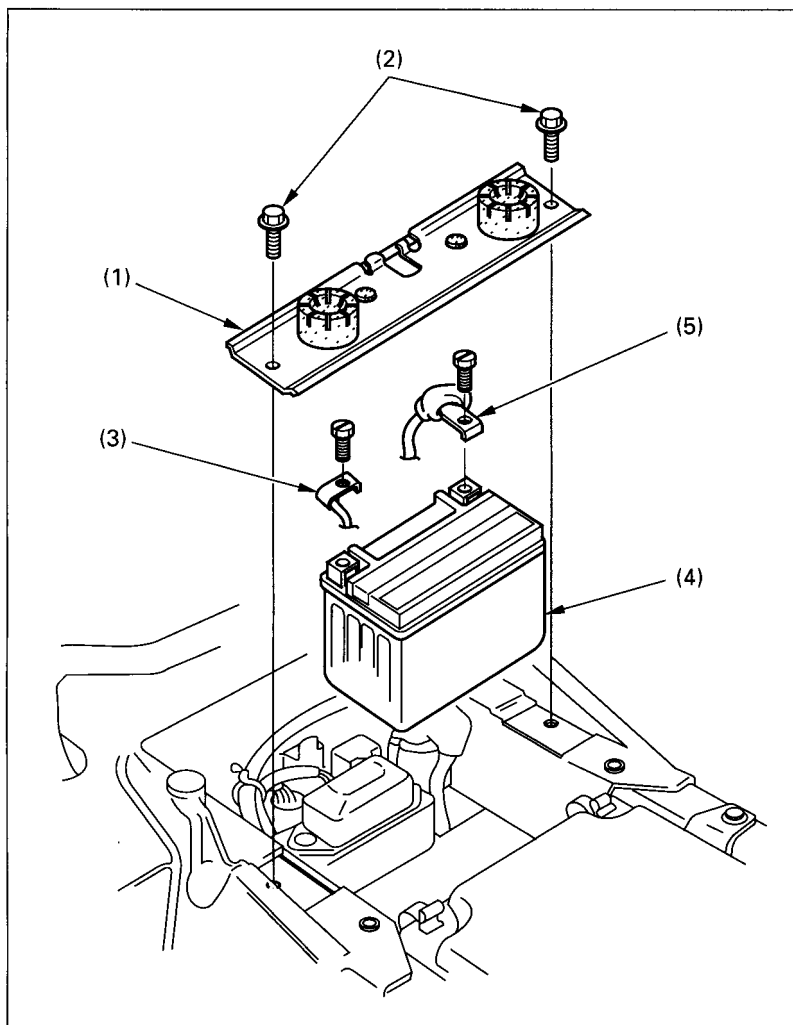

Fig. 4-19 (1) Battery holder
3. Remove the battery holder (1), (Fig. 4-19) by removing the mount bolts (2).
4. Disconnect the negative (—) terminal lead (3) from the battery (4) first, then disconnect the positive (+) terminal lead (5).